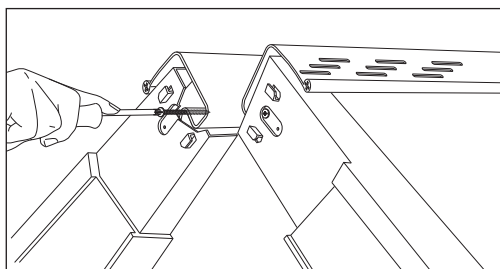

Fig 6 Screw verge units at apex of verge
- 13 At apex of roof, where battens are located, retain top course dry verge unit by securing a 30mm long pozidrive head screw (supplied) into second series of holes in verge unit and locate it behind nib section of dry ridge batten (Fig 6).